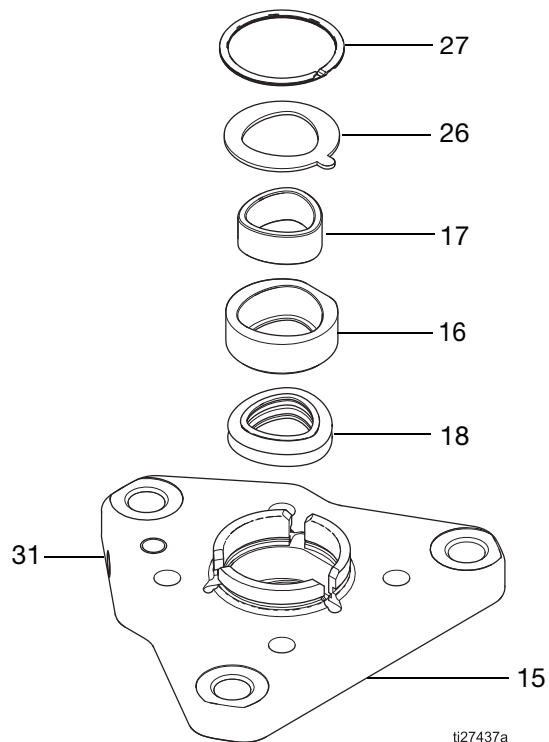
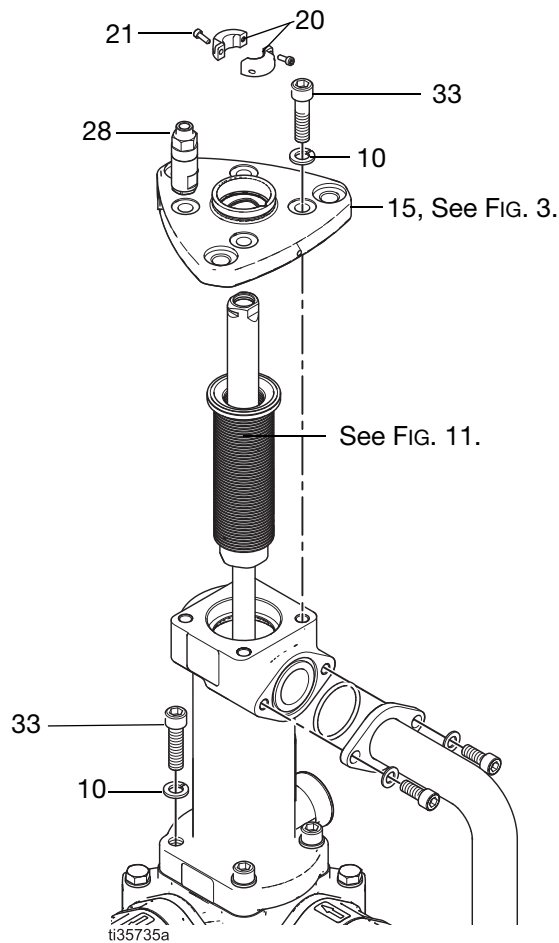

FIG. 3. Top Plate Assembly
FIG. 9. Disassemble or Reassemble the Bellows Section
See FIG. 9, page 12.
1. Remove the retaining collar (20) by removing the screws (21).
2. Remove the four capscrews (33) and lock washers (10) from the top plate (15).
3. Carefully lift the top plate (15) off of the bellows chamber (13). Keep the top plate (15) level.
NOTE: See FIG. 3, page 8. The retaining ring (27), retaining washer (26), bearing housing (16), bearing (17) and backup seal (18) nest in the top plate and will slide off with the top plate (29).
4. If the bellows has failed, also remove the breather valve (28) from the top plate. Clean the fluid path of any clogged paint.
1. Install the top plate assembly (15) (see FIG. 3, page 8), over the bellows assembly (14), by aligning the shapes of the bellows sleeve (22) and the backup seal (18). To orient as desired, rotate by 90° increments, aligning the bolt holes.
2. Secure the lower housing (8) in a vise.
3. Remove the retaining collar (20) by removing the screws (21).
4. Remove the four capscrews (33) and lock washers (10) from the top plate (15). This allows the bellows assembly to rotate with the top plate assembly. See FIG. 9, page 12.
5. Carefully lift the top plate assembly (15) off of the bellows chamber (13). When removing keep the top plate (15) level.
NOTE: See FIG. 3, page 8. The retaining ring (27), retaining washer (26), bearing housing (16), bearing (17) and backup seal (18) nest in the top plate and will slide off with the top plate (15).
6. Carefully remove the retaining ring (27), retaining washer (26), bearing housing (16), bearing (17) and backup seal (18) from the top plate (15). See FIG. 3, page 8.